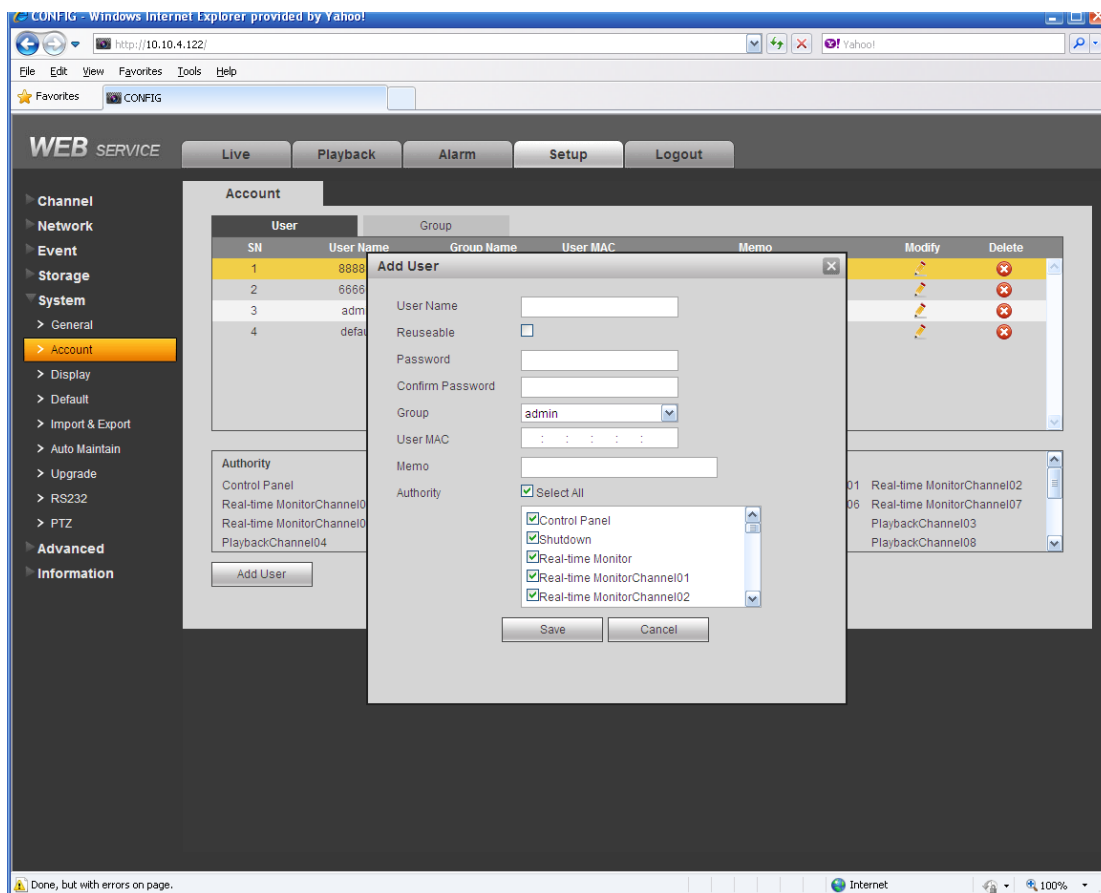

Figure 7-79
**Add user:** It is to add a name to group and set the user rights. See Figure 7-79.